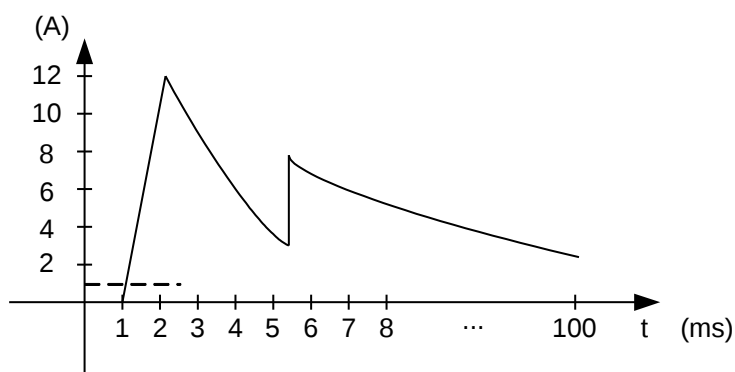

Figure 4-42 Measuring Inrush Current (2)
Users can use the following setting to measure the Inrush current (2) in Figure 4-42.
From Figure 4-42 it can tell that the current exceeds the trigger current (1A) around 1.1ms and after delayed for 3ms second, the 66202 Power Meter starts to measure the Inrush